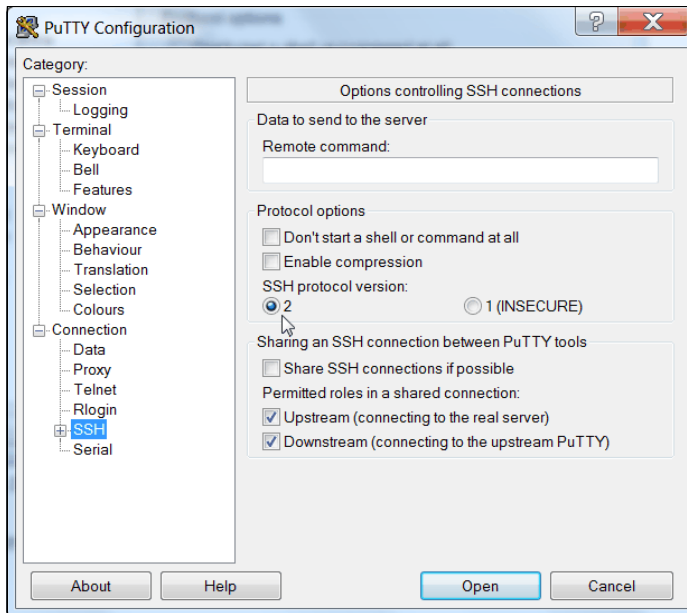

Figure A-15 SSH protocol version 2
- In the Category pane, on the left side of the PuTTY Configuration window (see Figure A-15), click **Connection** → **SSH** to open the PuTTY Configuration window Options controlling SSH connections view.